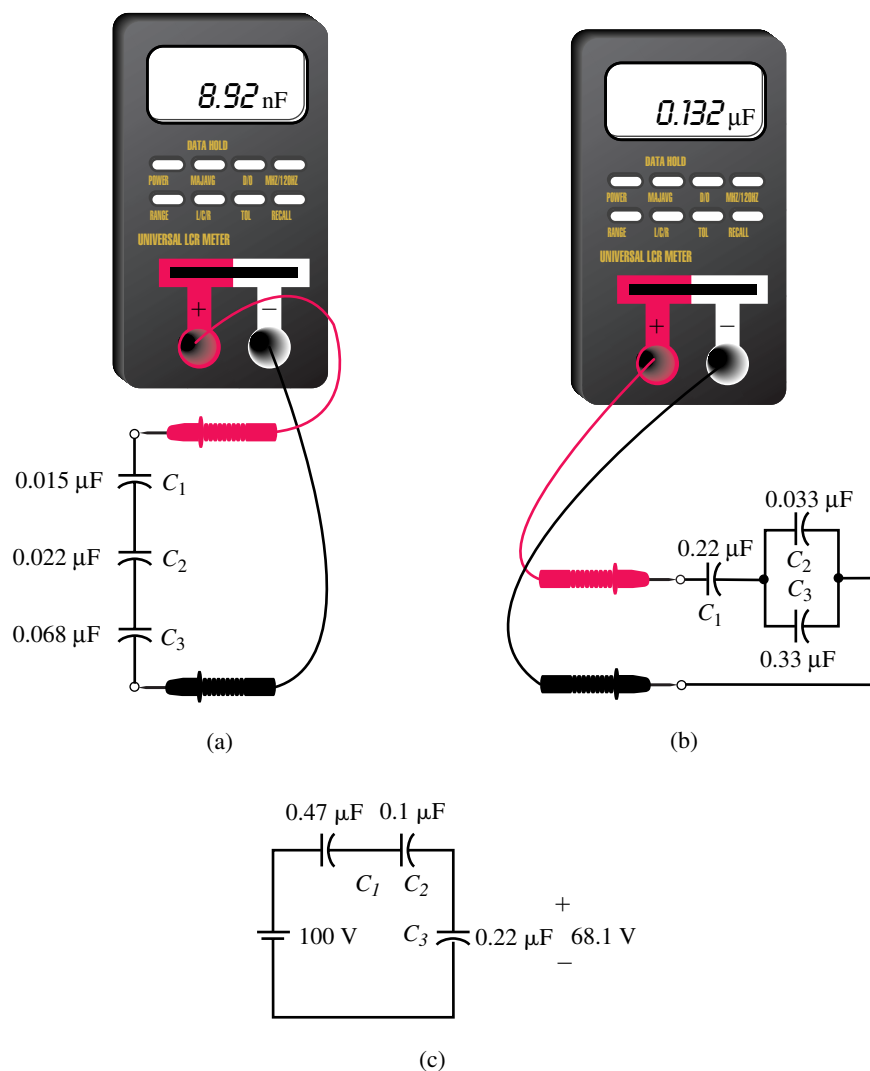

FIGURE 10-43 For each case, what is the likely fault?
48. For each case shown in Figure 10-43, what is the likely fault?